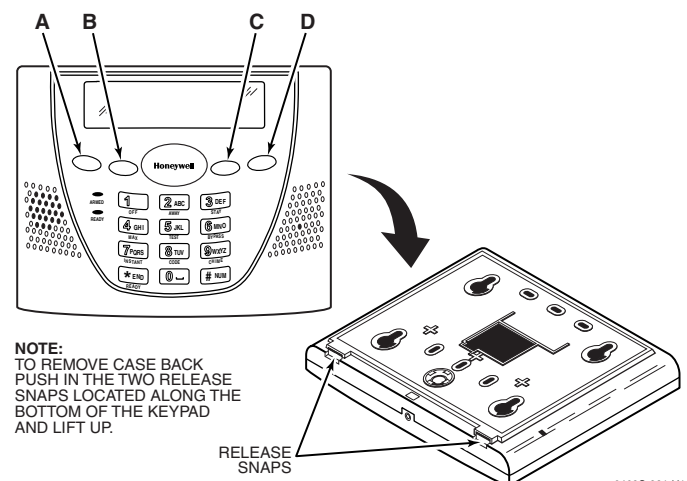

Figure 1. Removing the Case Back
1. Push the two case release snaps at the bottom of the keypad with the blade of a medium screwdriver (this will push in the release snap), then pull that side of the case back away. Refer to Figure 1 for location of the case back release snaps.